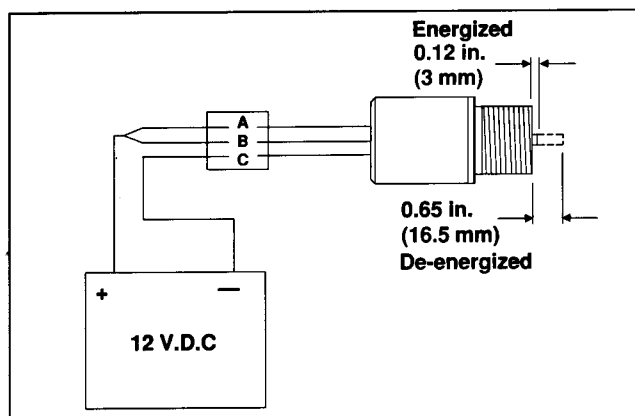

Figure 18
2. Connect a 12 volt battery so the positive (+) battery terminal is connected to terminals A (hold) and B (pull) (Fig. 18). Connect the negative (-) battery terminal to solenoid terminal C (common). The plunger should retract to the dimension shown.